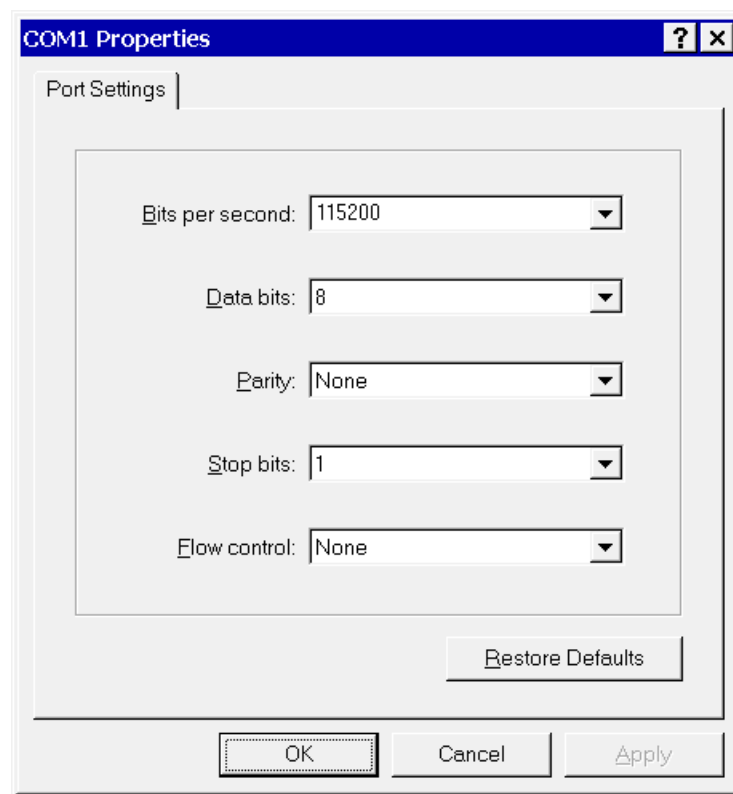

Figure 53: HyperTerminal Settings
- Select 115200 bits per second, 8 data bits, Parity None, 1 Stop bit, Flow control None. (See figure 53)